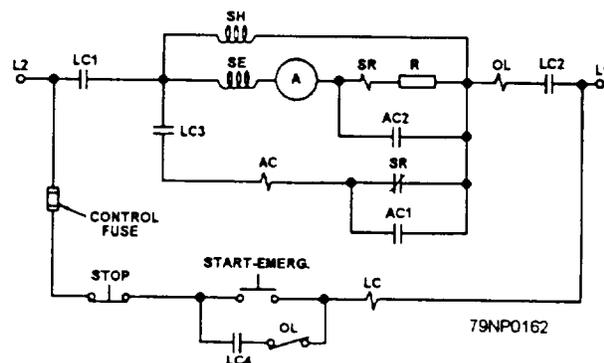

Figure 6-21.—A dc controller with one stage of acceleration.
acceleration are shown in figure 6-21. The letters that are in parentheses are indicated in figure 6-21. When the start button is pressed, the path for current is from the line terminal (L2) through the control fuse, the stop button, the start button, and the line contactor coil (LC), to the line terminal (L1). Current flowing through the contactor coil causes the armature to pull in and close the line contacts (LC1, LC2, LC3, and LC4).
If the motor becomes overloaded, the excessive current through the overload coil (OL) (at the top right of fig. 6-21) will open the overload contacts (OL) (at the bottom of fig. 6-21), disconnecting the motor from the line